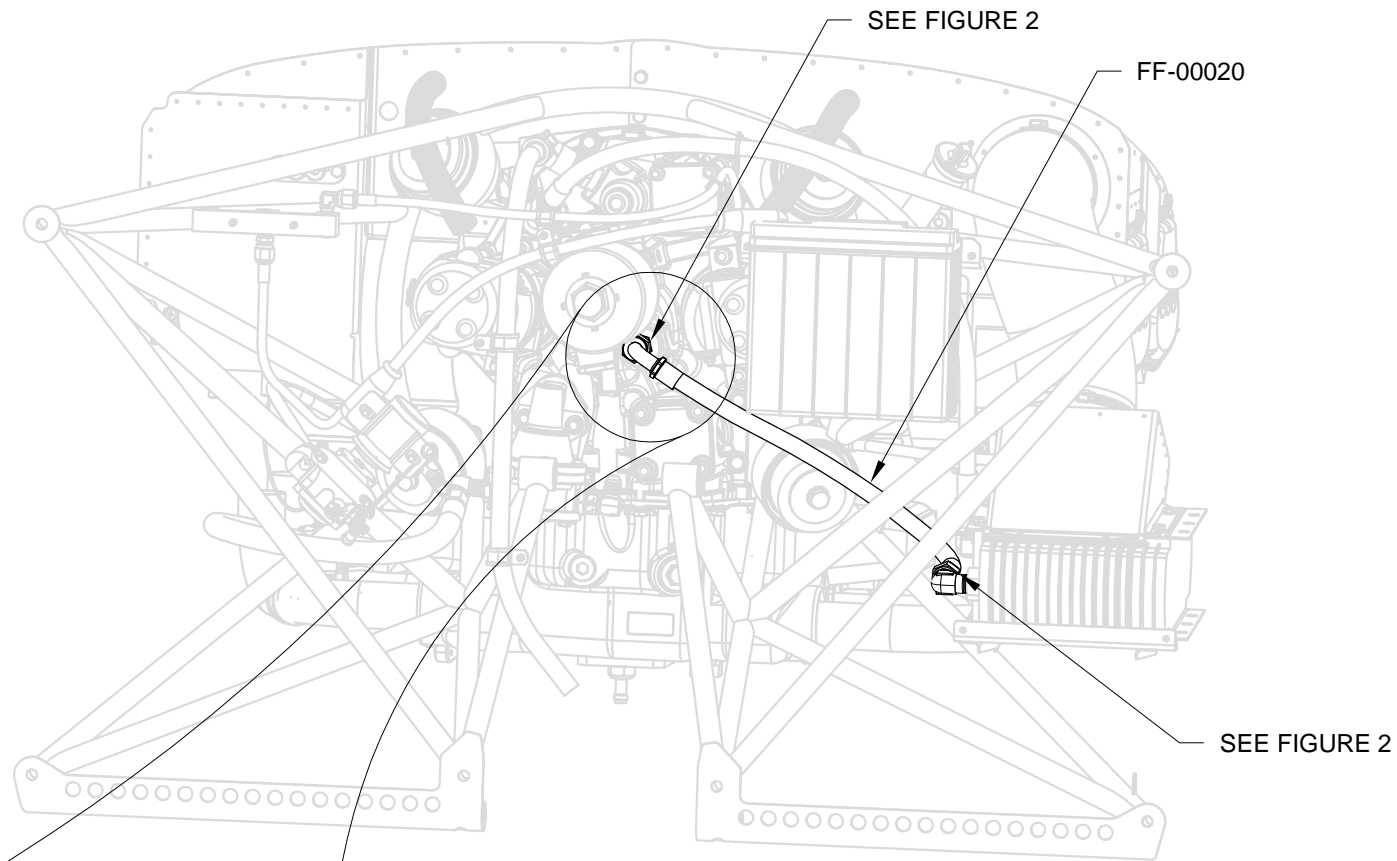

FIGURE 1: OIL COOLER HOSE INSTALLATION
Step 1: (Tri-Gear) Install the FF-00020 Hose to the oil cooler and engine as shown in Figures 1 and 2.